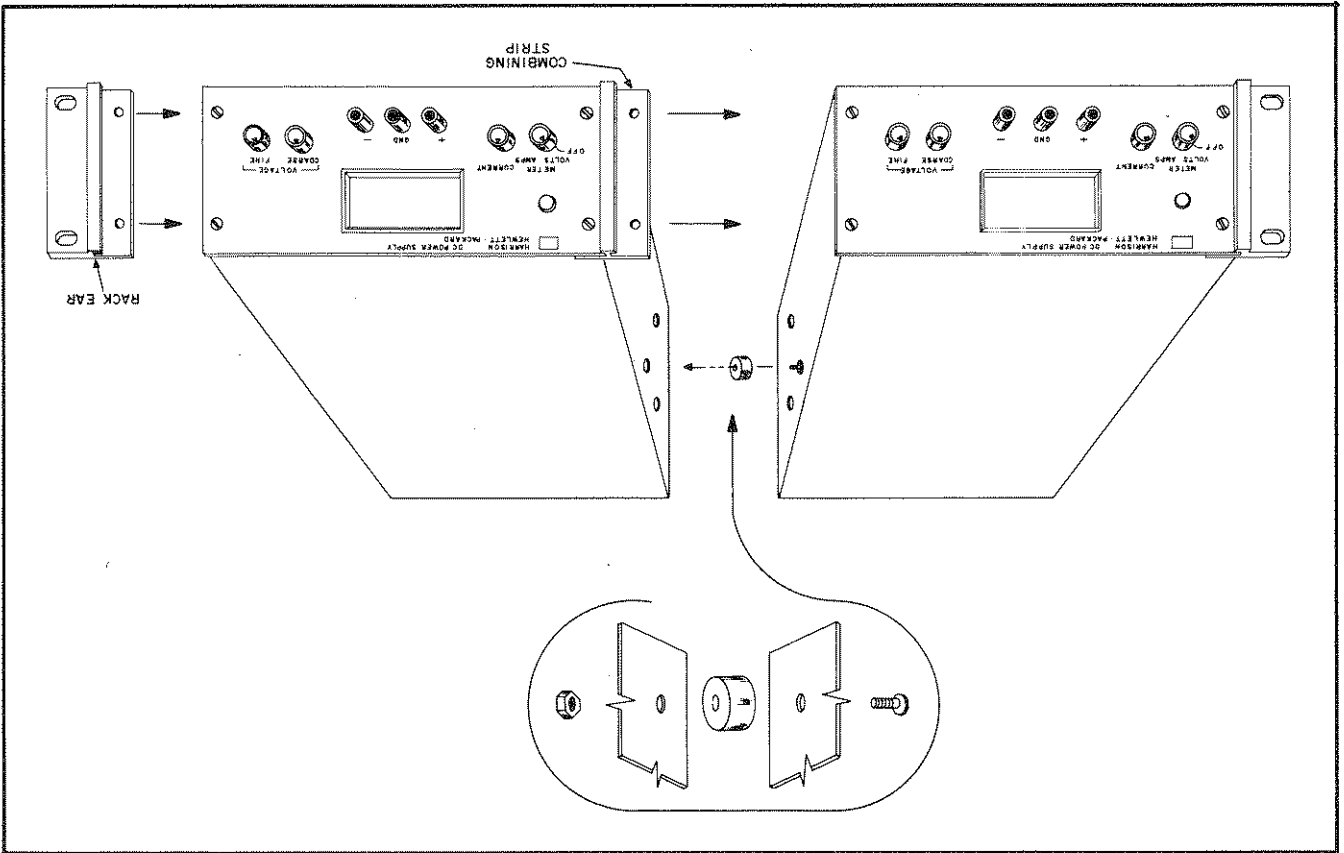

Figure 2-1. Rack Mounting, Two Units
- unit or by itself. Figures 2-1 and 2-2 show how both types of installations are accomplished.